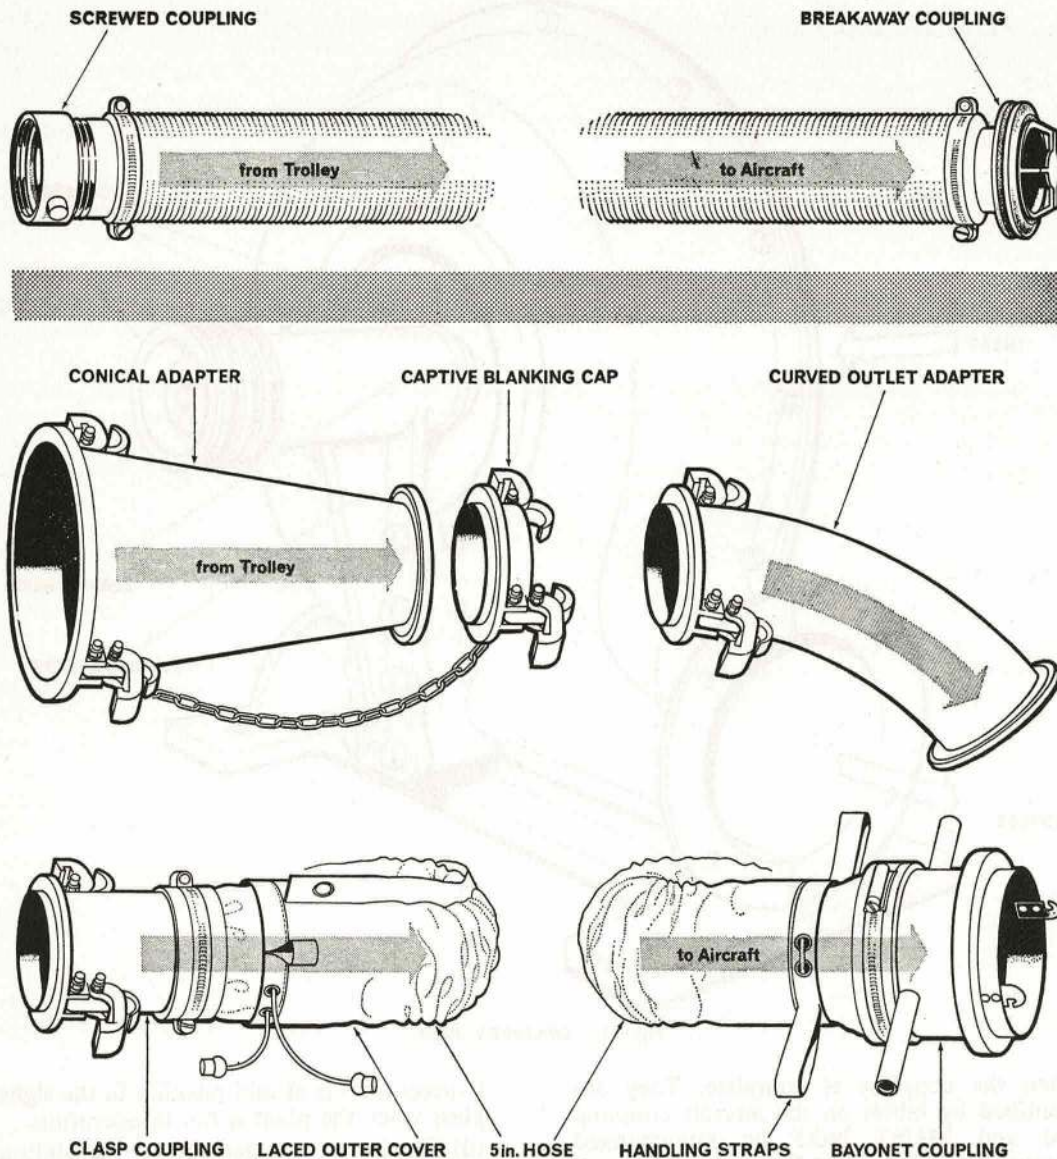

Fig. 12. HOSES AND ADAPTERS
51. **Adapters.** Two conical adapters (Fig. 12) are provided for fitting between the plenum box and the large hoses. Their design ensures a steady flow and reduction of back pressure; thus they must always be in place when the equipment is operated. The curved adapter is made to fit the 5 in. end of either of the conical adapters, as required, and its purpose is to direct the hose at a convenient angle to prevent kinking. Securing is done by toggle clamps.
52. **Hoses.** The two 5 in. bore hoses (Fig. 12) are made of canvas on a wire foundation, and they have a protective canvas laced-on covering. They are handled by means of loops of webbing at the connector ends, and the outer cover can be drawn over the end fittings
when the coupling is complete. They are identified by labels on the aircraft coupling end and **MUST NOT** be interchanged because the cabin hose inlet incorporates a plate that is not fitted in the other hose. The 3 in. scanner cooling hose is as shown (Fig. 12).